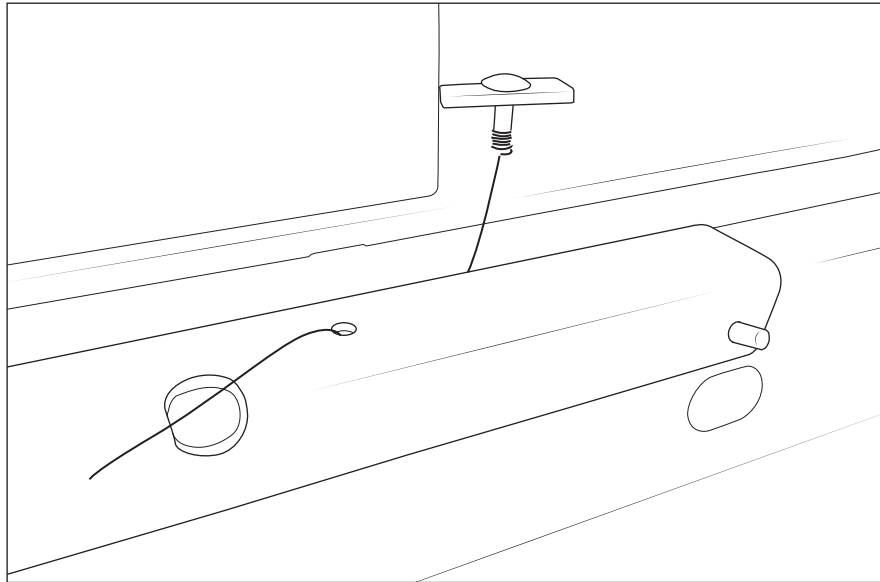

Figure 7
- G. Use the fish wire to pull one M10x35 carriage bolt and backer plate through upper Bulkhead Bracket hole (fig. 7). Torque to 46 lb-ft.